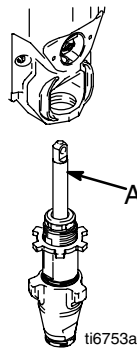

Fig. 13
1. Fig. 13. Extend pump piston rod fully. Apply grease to top of pump rod at (A) or inside connecting rod.